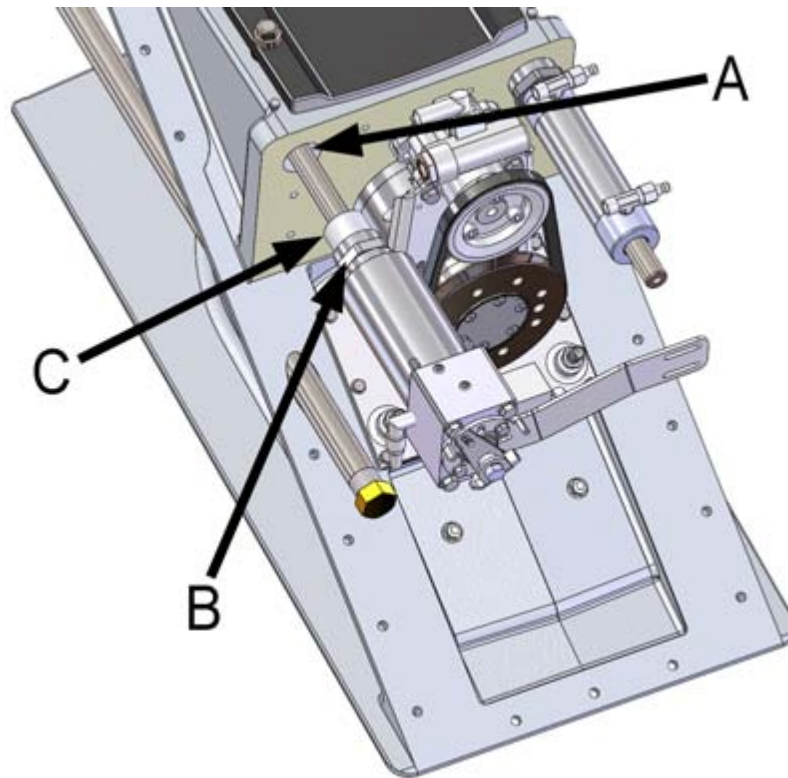

Figure 58. Installing the cylinder
2. Screw the locking nut on the thread onto the end of the cylinder in the correct position (figure 58, point B).
3. Screw the cylinder onto the threads in the hull. It is a good idea to apply lubricant on the thread (figure 58, point C).